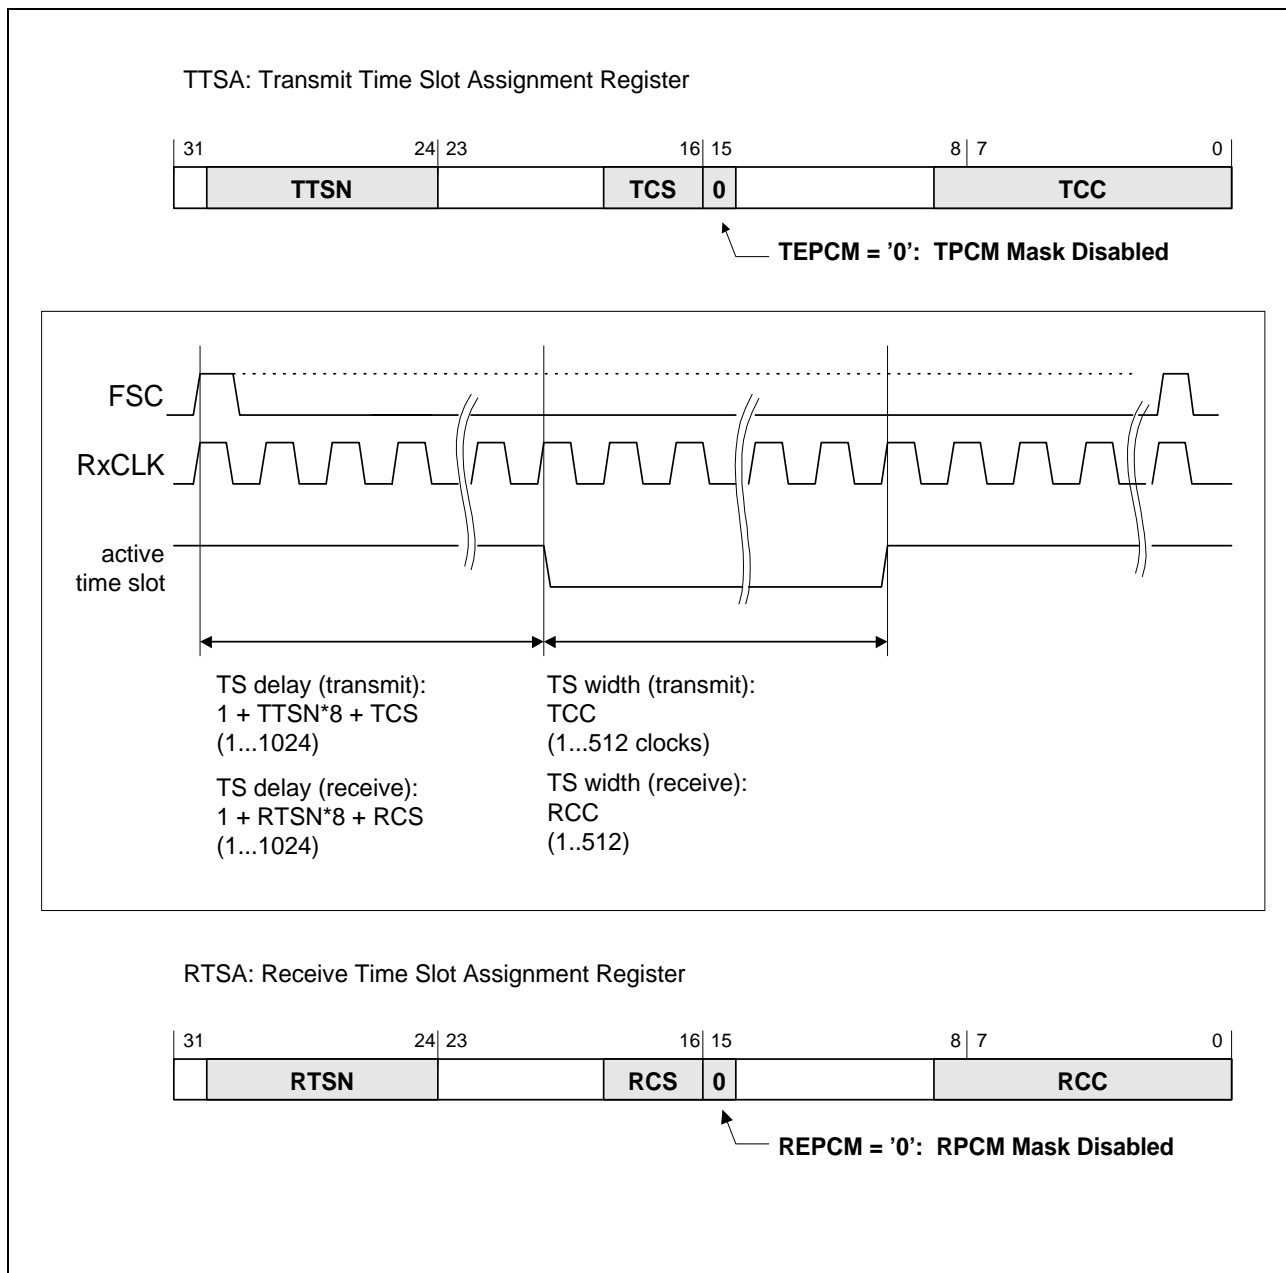
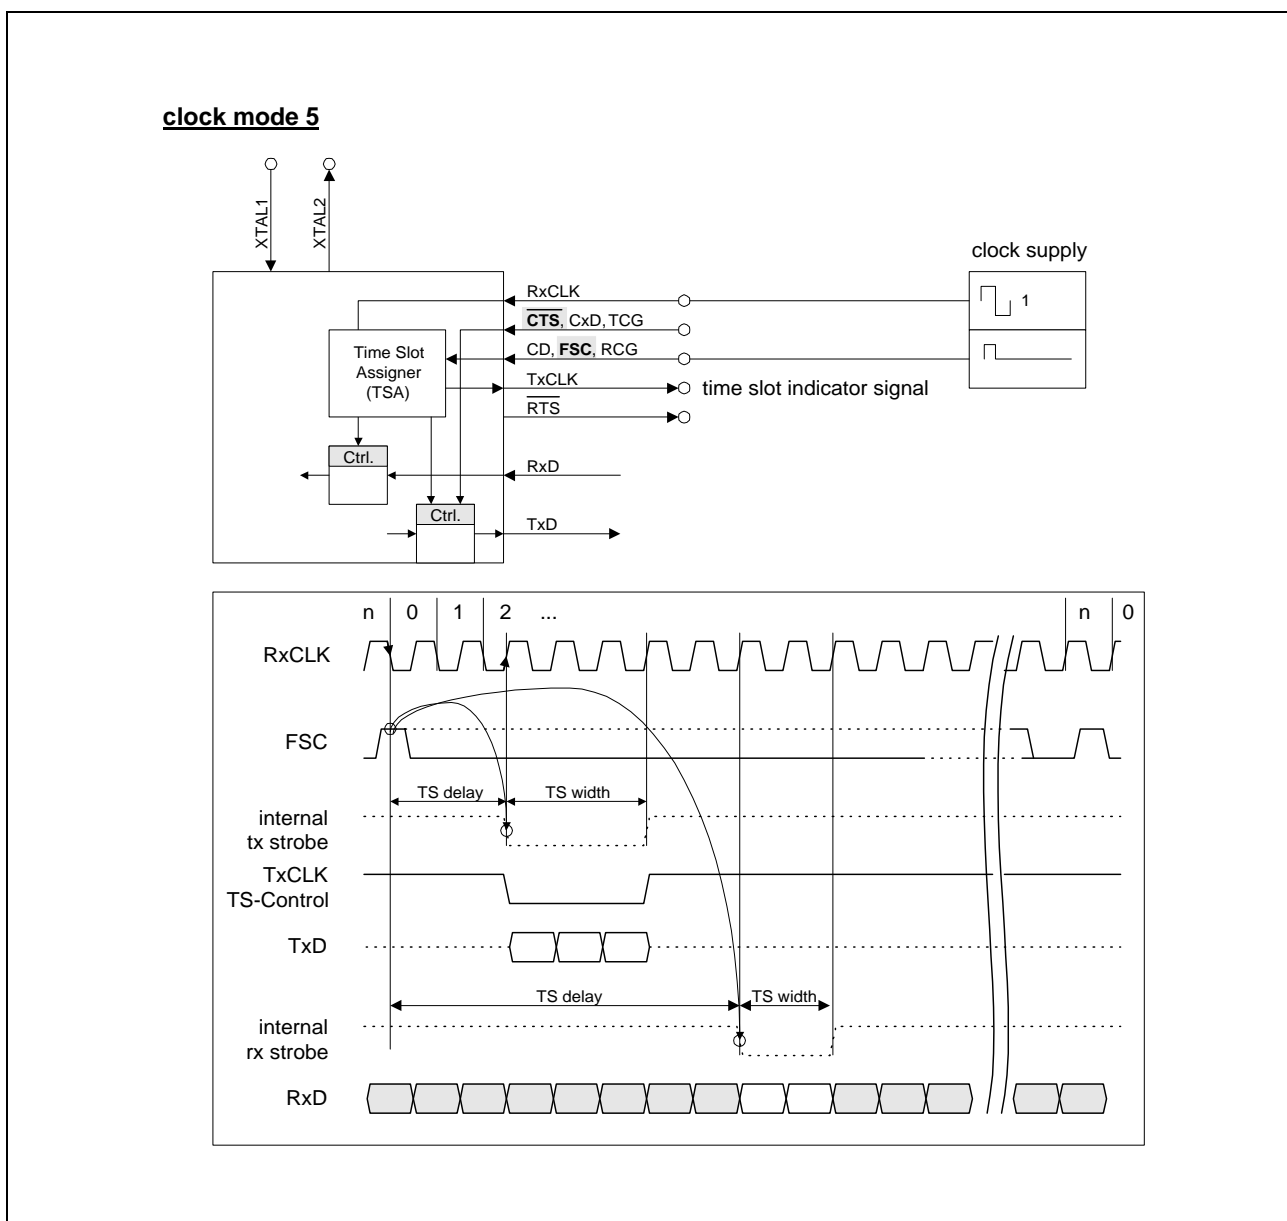

Figure 47 Selecting one time-slot of programmable delay and width
**Figure 48 Selecting one or more time-slots of 8-bit width**
**Figure 47** shows how to select a time-slot of programmable width and location and **figure 48** shows how to select one or more time-slots of 8-bit width.